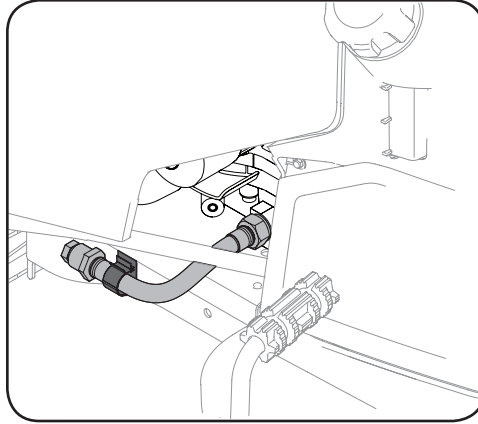

Figure 3-3
2. If your tractor is equipped with a drain hose as shown below, the oil drain tube and clip must be removed from the frame before installing the front right support (#6A). See Figure 3-3. The oil drain tube and clip will be fitted onto the front right support bracket when it is installed.